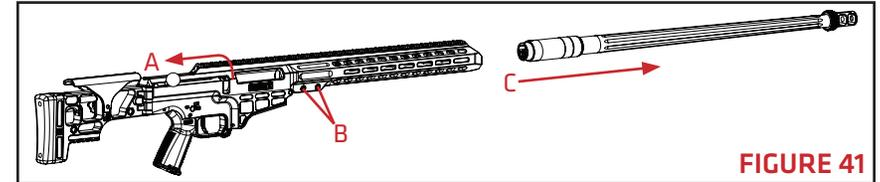

FIGURE 41
## CHANGING BARRELS - FIGURE 41
1. Raise the bolt handle and pull to the rear. Ensure the rifle is unloaded and the magazine is removed (**FIGURE 41-A**).
2. Loosen, but do not remove, the two barrel screws using a T-30 Torx Plus wrench (**FIGURE 41-B**).
3. Remove the barrel from the receiver (**FIGURE 41-C**).